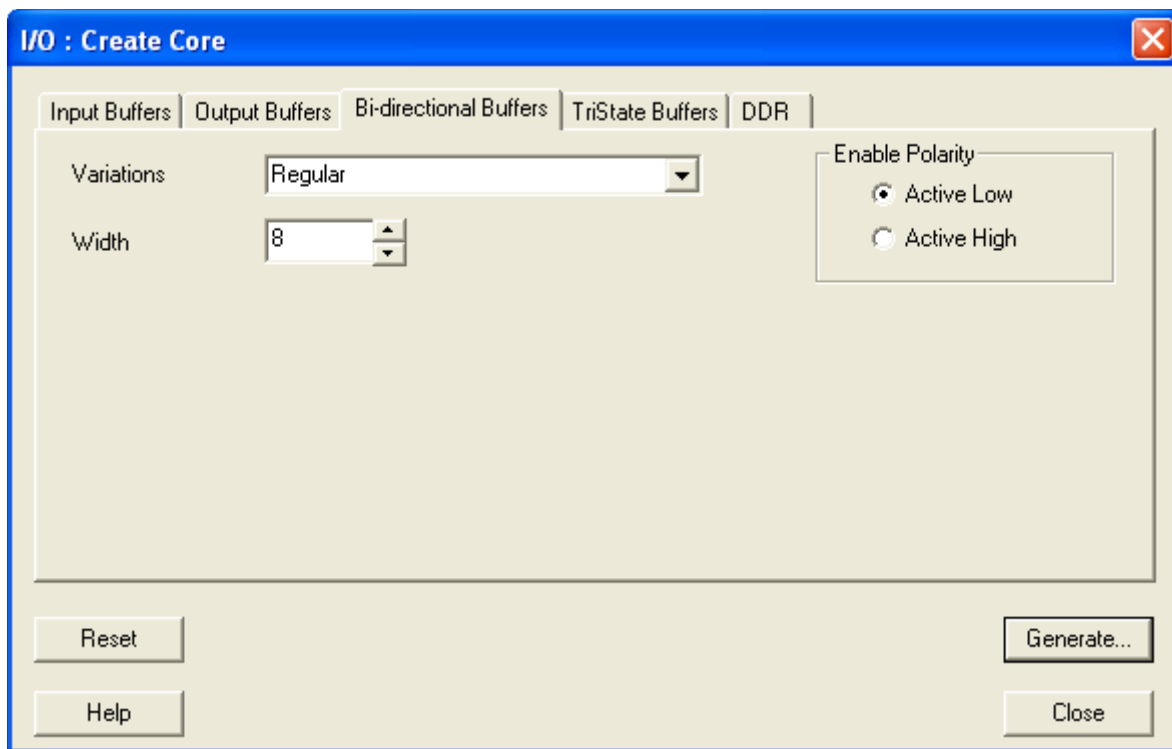

Figure 2-19 · Configure Bidirectional Buffers
- Click **Generate** (Figure 2-19).